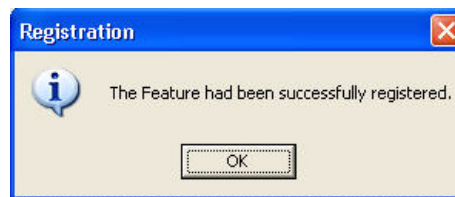

Figure I-7 Successful License Registration Dialog
11. If the license registration is successful, a dialog will be displayed confirming successful registration (Figure I-7).